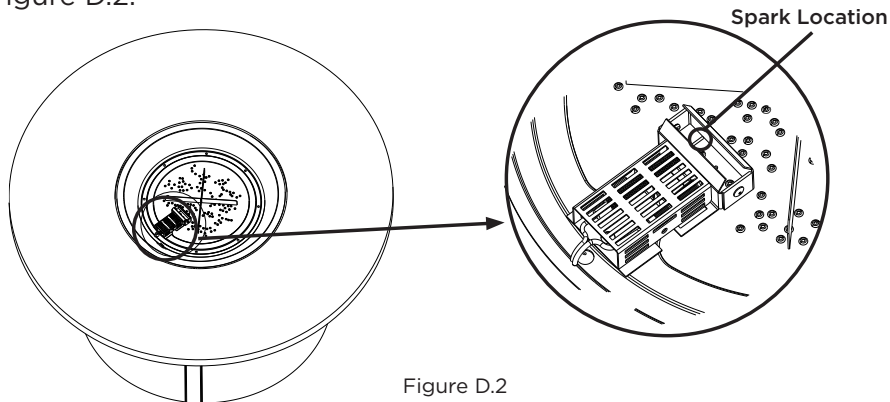

Figure D.2
6. Test the spark ignition by pressing the sparker and looking for a spark on the burner between the two pieces of metal. Consult the troubleshooting section of the Crystal Fire® Plus burner user manual if the spark is weak, intermittent, or not present. See Figure D.2.